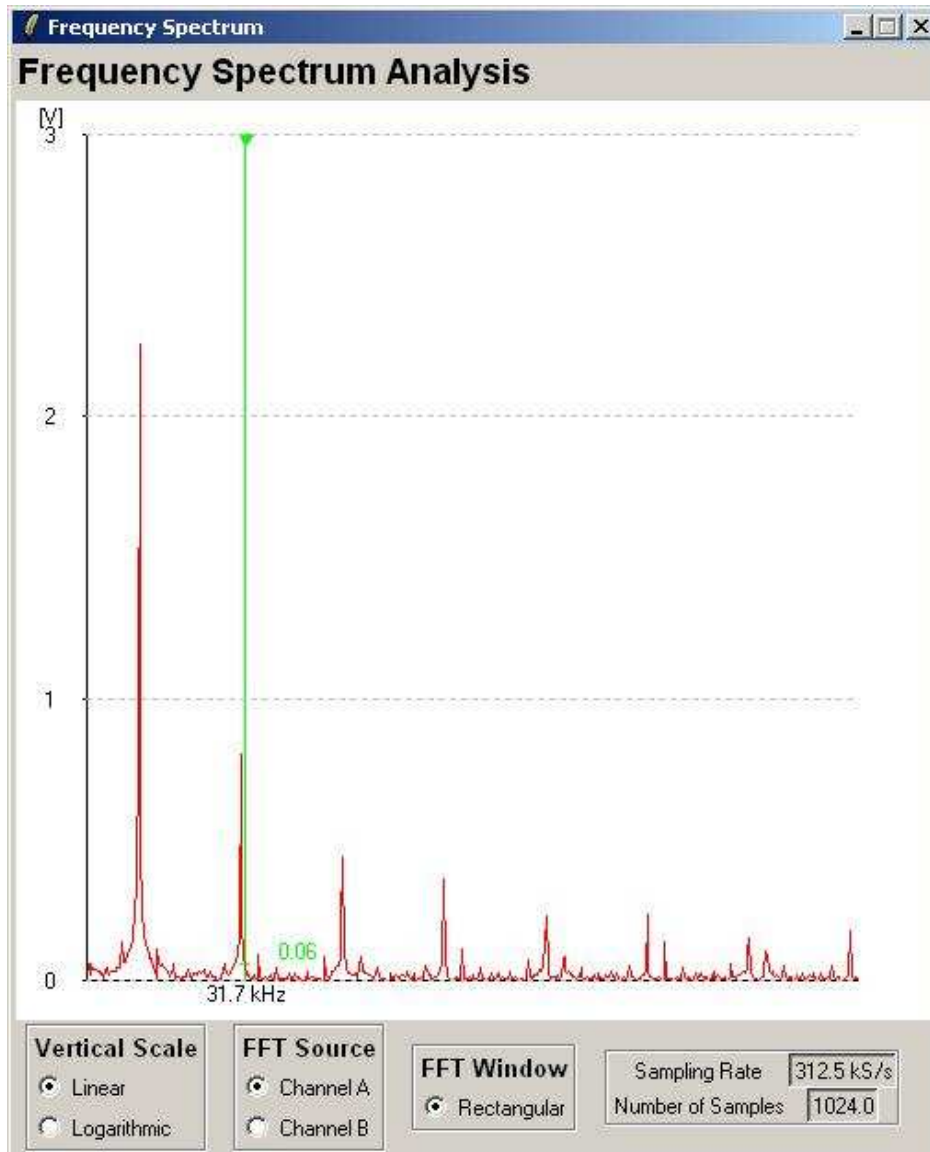

Figure 10: Square Wave Spectrum
Clicking on Tools -> Spectrum Analysis brings up the spectrum analysis display of figure 10. The displayed spectrum in this image is a 10kHz square wave.
- The *Effective Sampling Rate* is shown in a readout at the bottom right corner of the spectrum display. This is important: the sampling rate must be at least twice the frequencies being analysed to avoid aliasing. Put another way, there must not be frequency components above the Nyquist rate, which is half the sampling rate. In the example shown in figure 10, the sample rate is 200kHz. The frequency components range from 10kHz to 90kHz, below the Nyquist rate of 100kHz6.
- As the readout cursor is dragged higher in frequency it jumps from bin to bin, reading out the centre frequency of each bin. A given frequency component may not be centred in its bin, so the frequency readout will be only approximate. For example, in figure 10, the square wave frequency (generated by a Syscomp WGM-101 waveform generator) is at a frequency 10kHz to within a fraction of a Hz. The 9th harmonic is at 90kHz. The spectrum display readout puts the 9th harmonic at 90234 Hz, which is only
Determine the frequency resolution (bin spacing) for the case of the display of figure 10.